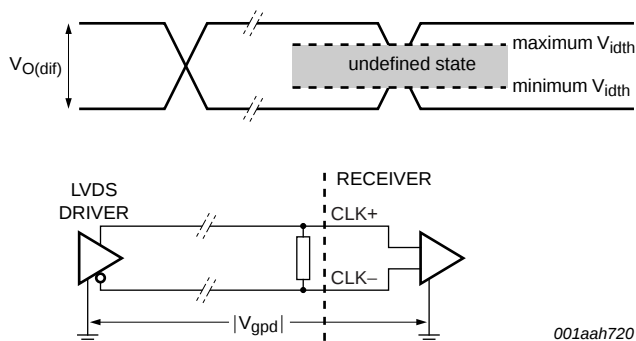

Fig 3. LVDS clock input
- LVDS mode: CLK+ and CLK– inputs are at differential LVDS levels. An external resistor of between 80  $\Omega$  and 120  $\Omega$  is required; see Figure 3.